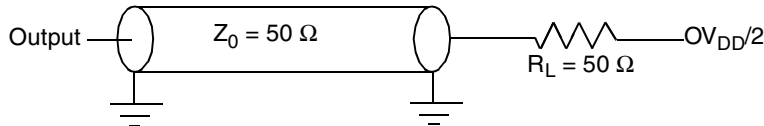

Figure 30. AC Test Load for the JTAG Interface
1. All outputs are measured from the midpoint voltage of the falling/rising edge of t_{TCLK} to the midpoint of the signal in question. The output timings are measured at the pins. All output timings assume a purely resistive 50-Ω load (see Figure 30). Time-of-flight delays must be added for trace lengths, vias, and connectors in the system.
2. The symbols used for timing specifications herein follow the pattern of $t_{(first\ two\ letters\ of\ functional\ block)(signal)(state)\ (reference)(state)}$ for inputs and $t_{(first\ two\ letters\ of\ functional\ block)(reference)(state)(signal)(state)}$ for outputs. For example, t_{JTDVXH} symbolizes JTAG device timing (JT) with respect to the time data input signals (D) reaching the valid state (V) relative to the t_{JTG} clock reference (K) going to the high (H) state or setup time. Also, t_{JTDXKH} symbolizes JTAG timing (JT) with respect to the time data input signals (D) went invalid (X) relative to the t_{JTG} clock reference (K) going to the high (H) state. Note that, in general, the clock reference symbol representation is based on three letters representing the clock of a particular functional. For rise and fall times, the latter convention is used with the appropriate letter: R (rise) or F (fall).
Figure 30 provides the AC test load for TDO and the boundary-scan outputs.
Figure 30 provides the AC test load for the I²C.